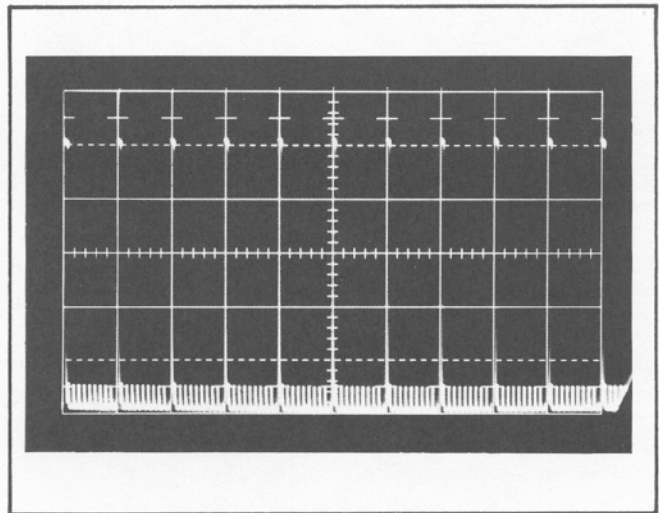

Fig. 5-5. Typical Test Oscilloscope display for scaler adjustments.
b. If the Test Oscilloscope display is other than one large  $10 \mu\text{s}$  marker per centimeter with nine low amplitude  $1 \mu\text{s}$  markers between each two large pulses (see Fig. 5-5), adjust the 100 kHz CAL, R30, halfway between the points of eight  $1 \mu\text{s}$  markers and ten  $1 \mu\text{s}$  markers.